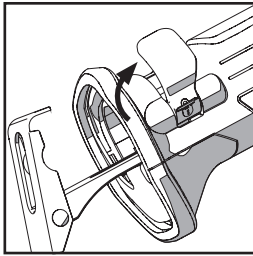

Fig. 1
- Operate the blade clamping lever to 'open' the blade holder. (**Fig. 1**)